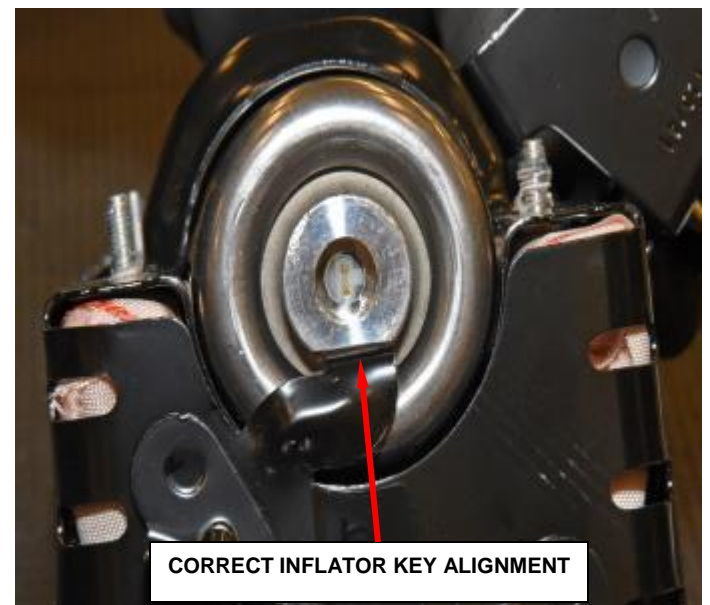

Figure 86 – Check for Inflator Key Alignment
k. Ensure that the inflator's key is still lined up with the housing's key (Figure 86).